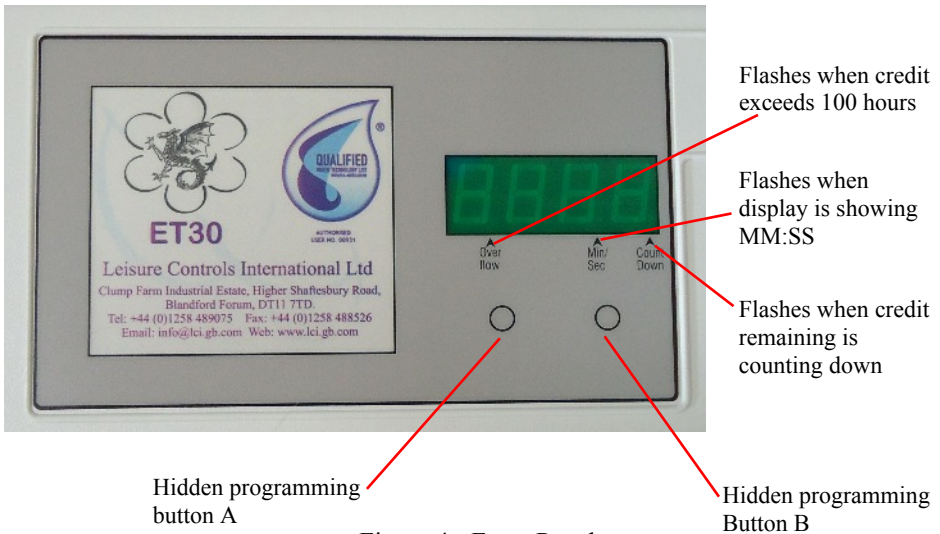

Figure 4 - Front Panel
- (1) The 4 digit 7 segment display, in conjunction with the hidden programming buttons, is used to program the ET30, as well as showing time remaining and mode of operation (see Figure 4).
- (2) The coin entry accepts tokens or 10p, 20p, £1, €½, €1 coins.
- (3) The optional key over-ride switch turns the timer output on permanently.
- (4) Access for installation is via the cover lock.
- (5) Cash box holding 100 coins.
- (6) Hidden programming buttons (page 3).
To access service mode remove the coin box, press and release button B (Figure 4) to step to the desired setting number (St.01 to St.04). Simultaneously pressing and releasing both buttons A and B will step back to the previous setting. On reaching the required setting number press button A to enter desired values.
Insert coin/token. The display will briefly show 'Coin'. The display will then show the remaining credit. If the credit is greater than one hour it will be displayed in hours & minutes, e.g.; 2 hours will be displayed as '02:00'. If the credit is less than one hour it will be displayed in minutes & seconds, e.g.; 40 minutes will be displayed as '40:00' and an indicator will flash on the display to show this (Figure 4).